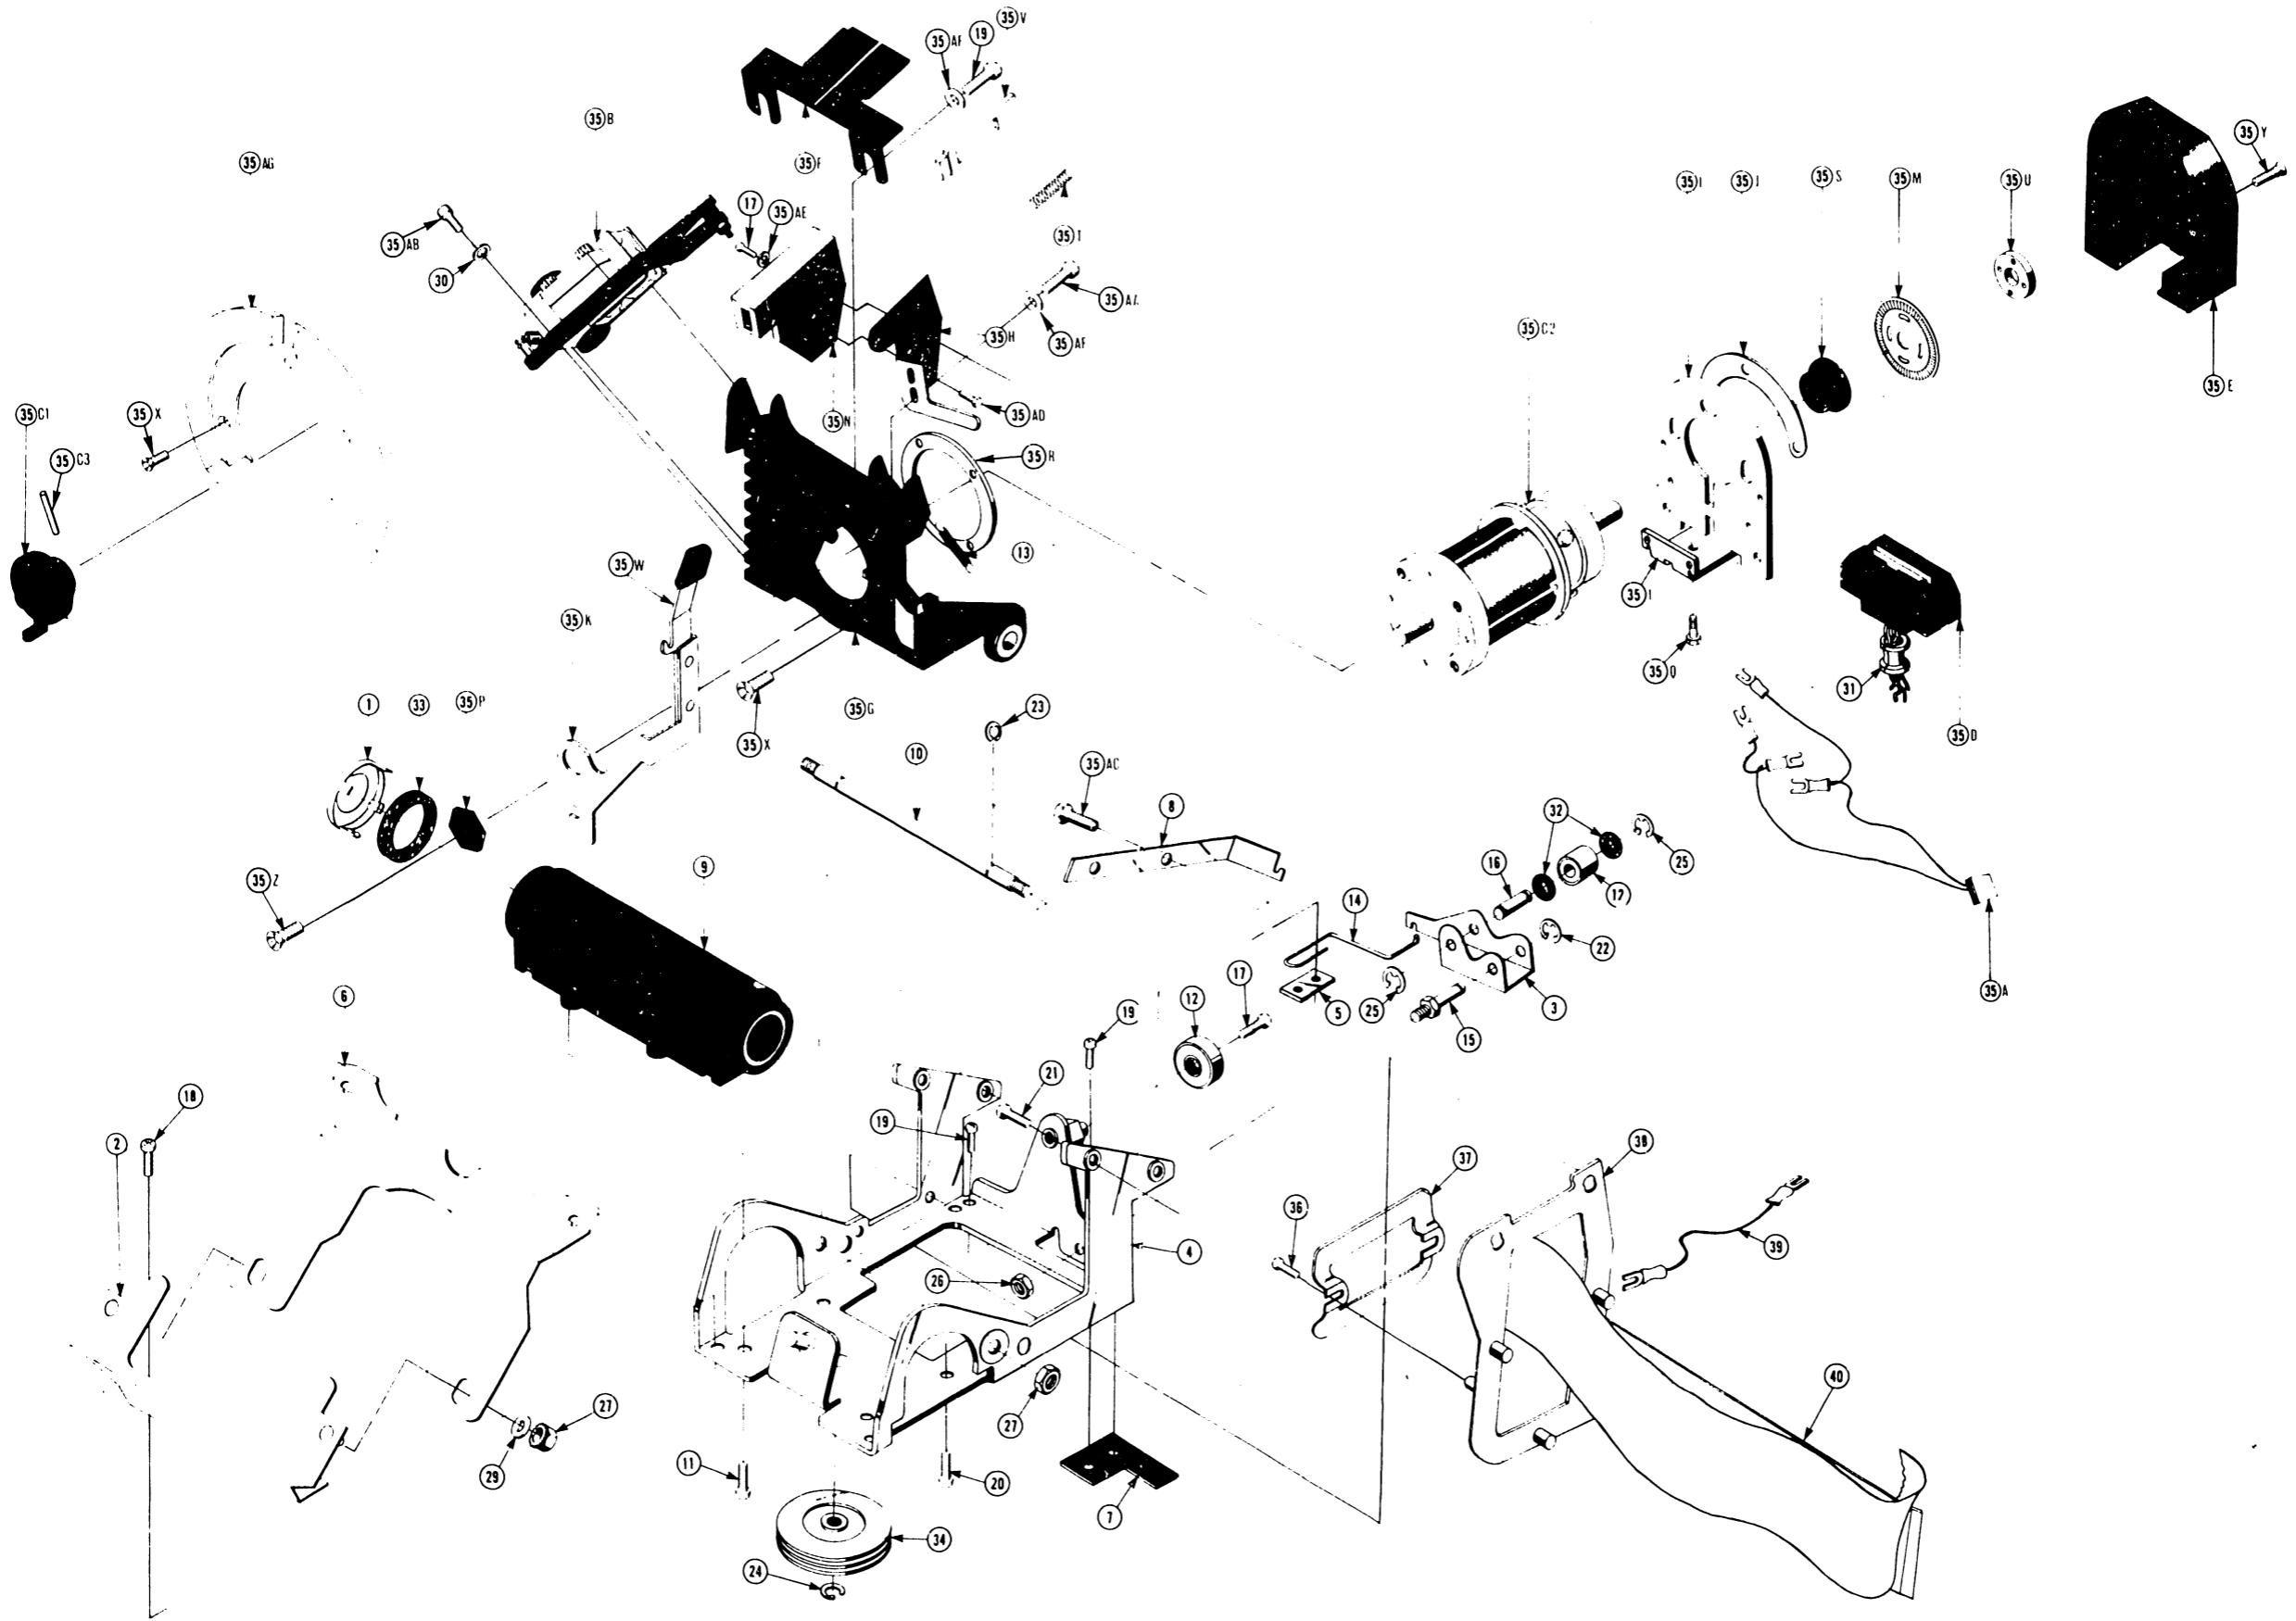

FIGURE 9-7 CARRIAGE ASSEMBLY
9.3.6 CARRIAGE ASSEMBLY (SEE FIGURE 9-7)